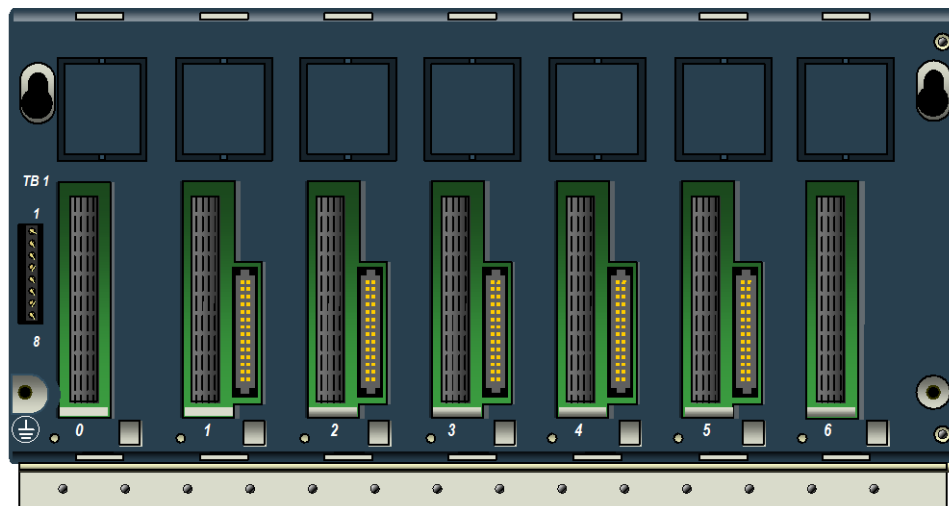

Figure 1: IC695CHS007 Universal Backplane showing slots 0 through 6
Slot 0, the slot furthest to the left (Figure 1), supports the IC695 power supply only. Slots 1-5 support both PCI-based and serial backplane modules. Slot 6 provides a PCI connector only and can therefore only accept IC695 single-width modules.
- Terminal Strip on the left end (Figure 1) for Isolated +24V input